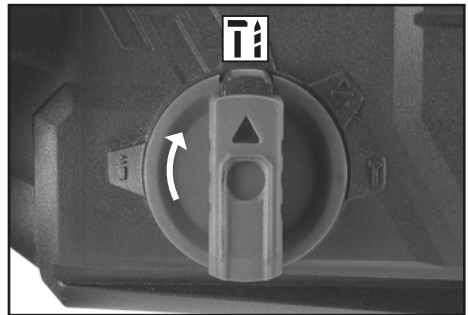

FIG.4
9.3 HAMMER AND DRILLING - FIG.4
- Rotate the function selector (2) to the hammer and drill setting.